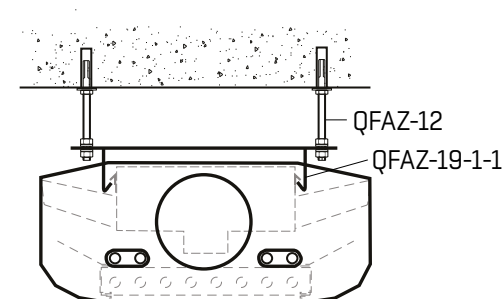

FIGURE 15
- 2) Next, snap the NOVA II IQFI into the low-build fastening brackets. (See **FIGURE 15**)